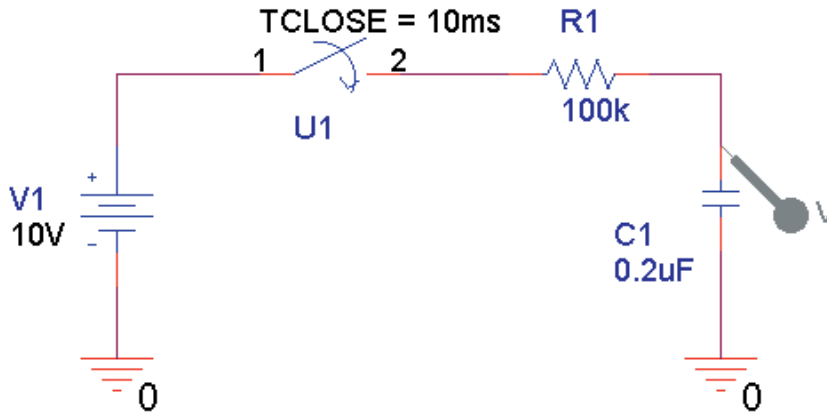

FIGURE A-3
3. The **Place part** tool is used to construct the circuit shown in Figure A-3.
Multiple traces may be graphed either on the same vertical axis or using independent y-axis scales. For instance, it is possible to simultaneously display both capacitor voltage $V(C1:1)$ and current $I(C1)$ for the circuit of Figure A-3. It is generally good practice to label each trace using the label menu item. The steps are outlined as follows: